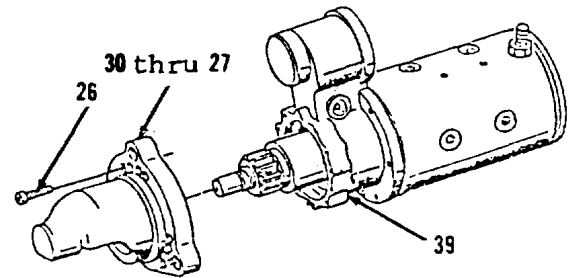
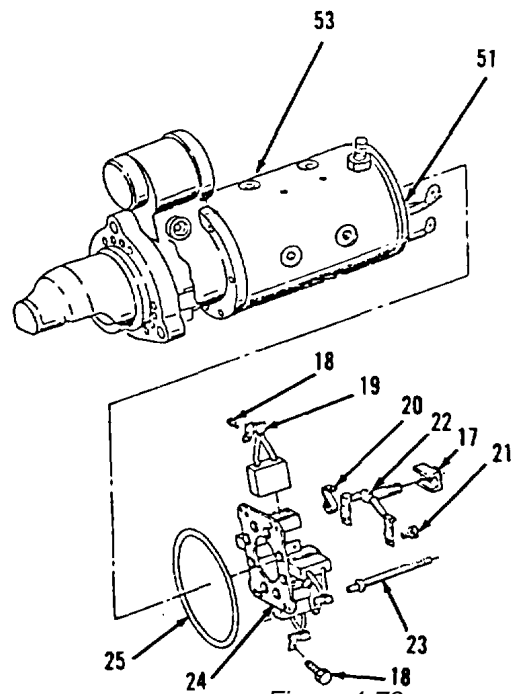

Figure 4-74.
Figure 4-73.
26. Install items 30 thru 27 as an assembly on housing (39, Figure 4-74) alining matchmarks.
27. Install six screws (26) and tighten to 9 ft-lb torque.
28. Install new preformed packing (25) on groove of housing (53, Figure 4-73).
29. Using clean oil, lubricate outer diameter of new preformed packing (25).